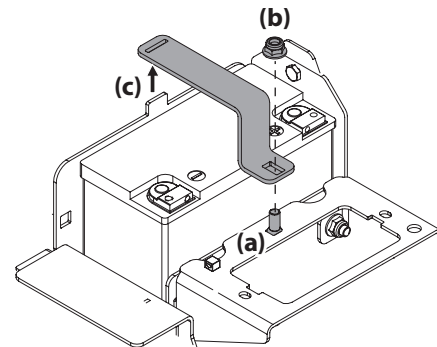

Figure 6
4. Locate and hold the carriage bolt (a) at the front of the battery bracket (c) to prevent it from falling. See Figure 6.
5. Remove the hex lock nut (b) securing the battery bracket (c) in place. Save the carriage bolt and hex lock nut for later reinstallation. See Figure 6.
6. Lift the battery bracket (c) off of the tab at the left side of the battery compartment and save for later reinstallation. See Figure 6.